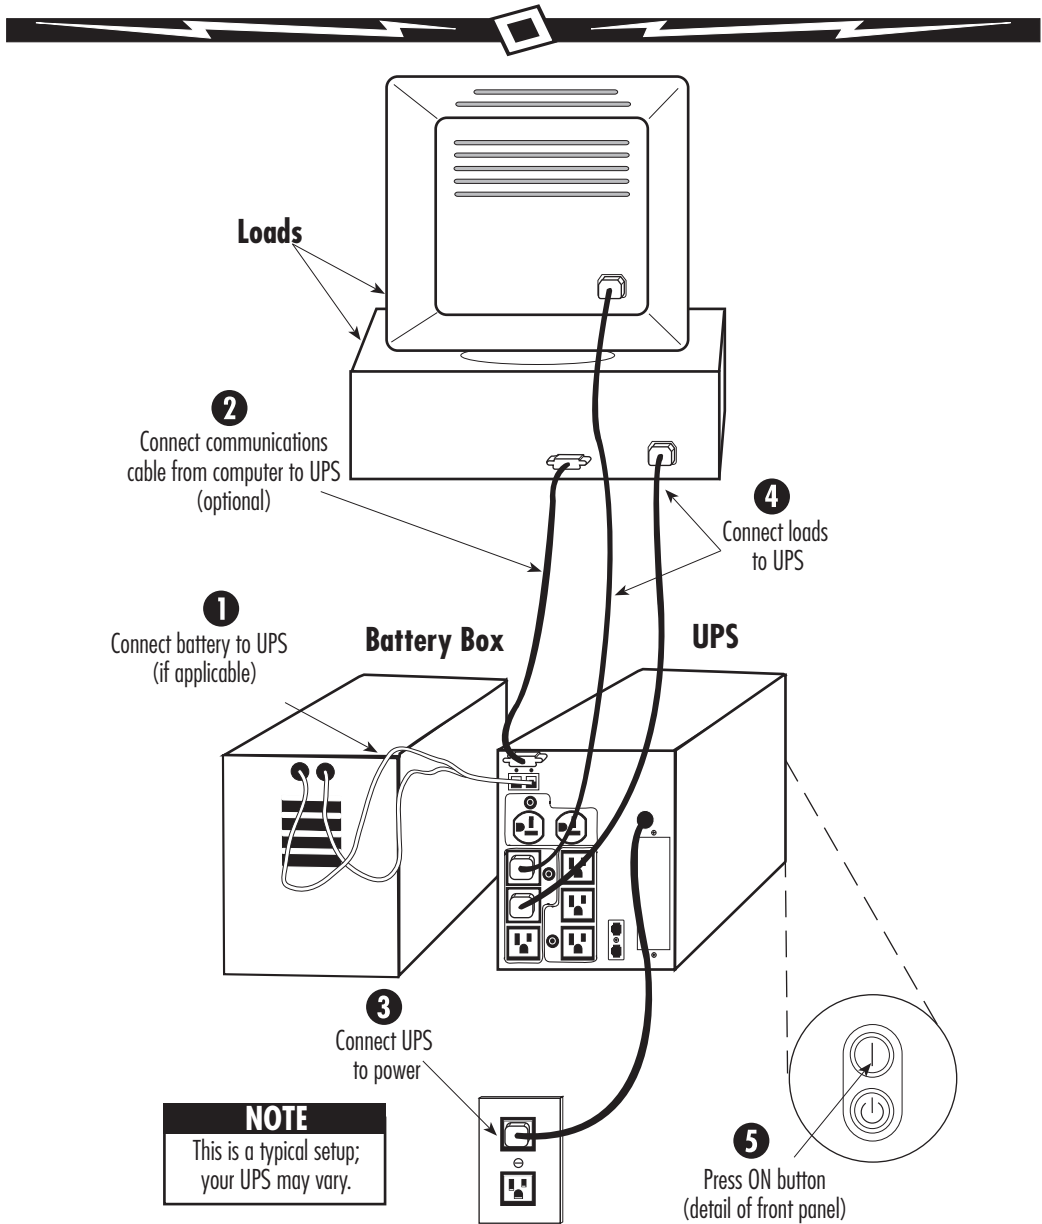

Figure 2. Typical UPS Installation
| Figure 2. Typical UPS Installation..... | 6 |
Follow these steps to install your UPS. Figure 2 shows a typical installation; installing your specific model may vary. Appendix C shows the rear panel of each model.
1. If your UPS has an external battery, connect it to the UPS as shown in Figure 2.
5. Start the UPS by pressing the ON button as shown in Figure 2. Power is now available to the rear receptacles, and the ON LED is lit.